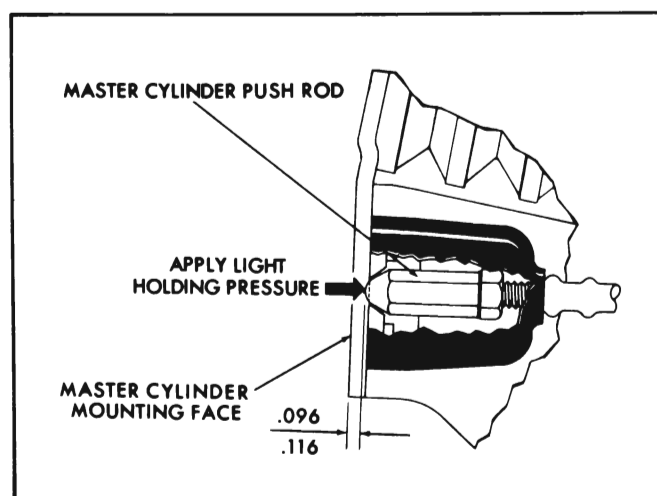

Figure 9-40—Push Rod Adjustment
2. Adjust the push rod length to the .096/.116 dimension (see Figure 9-40).